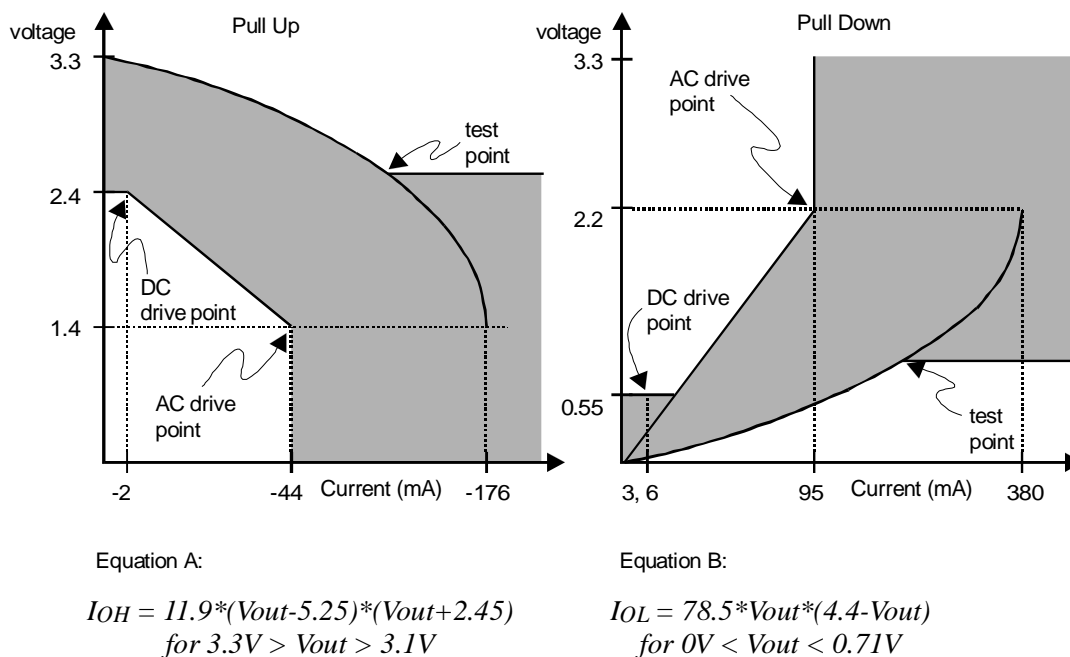

Figure 1. AC Characteristics
5. Refer to V/I curves in Figure 1. Specification does not apply to PCICLK and RST# signals. Switching Current High specification does not apply to SERR# and INTA# which are open drain outputs.